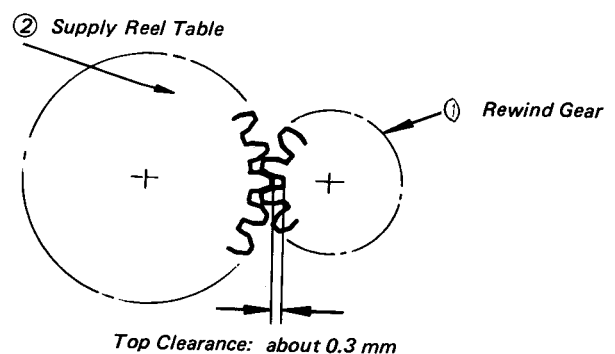

Fig. 5-51 Rewind Gear Engagement Adjustment
14-1. Checking (Fig. 5-51)
5. Check to insure that the top clearance of the gears is 0.3 mm (see Fig. 5-51).
14-2. Adjusting the Rewind Gear Engagement (Fig. 5-51, 5-52).
2. Loosen the two screws ④ holding the rewind solenoid ③.
3. Slide the rewind solenoid ③ in the direction A (←).
4. Set the VCR in the rewinding mode of operation to energize the rewind solenoid ③.
5. Move the rewind solenoid ③ by pressing a bladed screwdriver to the rectangular hole on the reel chassis until the gear top clearance is 0.3 mm (see Fig. 5-51).
6. Tighten the screws ④.
7. If the rewind solenoid ③ is defective in the plunger attention, then replace the rewind solenoid ③ by following Item 14-3 below.